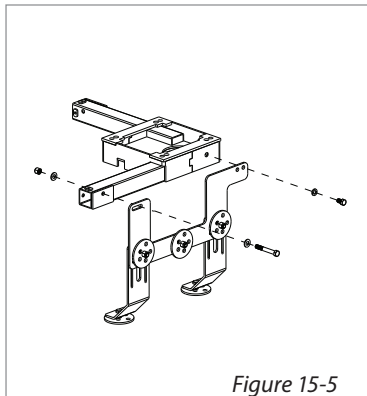

Figure 15-5
5. **Attach vertical joiner to base** using supplied hardware as indicated. [Figure 15-5]